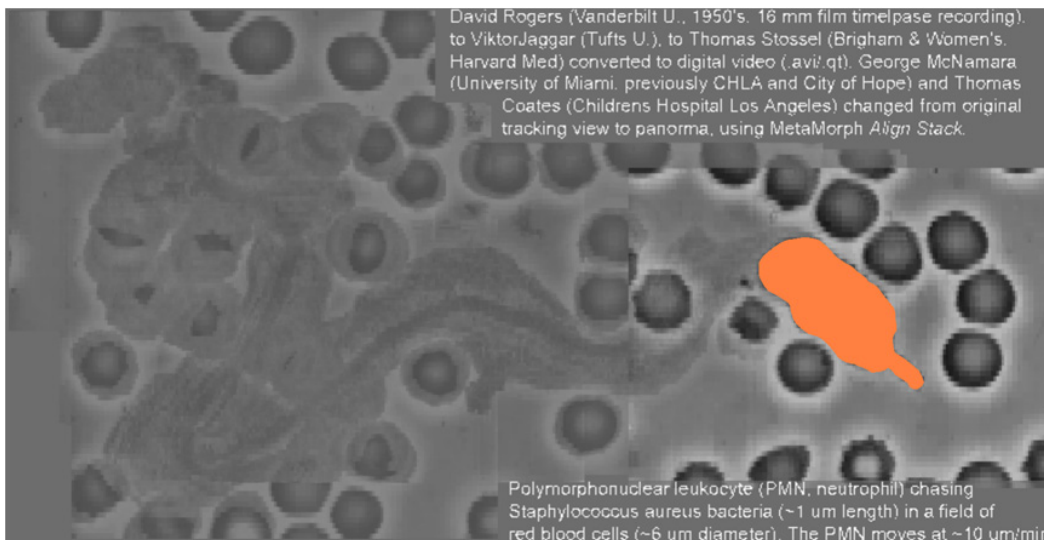

Figure 1. First plane of panoramic movie with cell thresholded orange.
In part one, I described making a panoramic movie of the classic timelapse film by David Rogers of a neutrophil chasing bacteria. In part two, I described the three tracking options, Track Points (manual), Track Objects (using threshold), Multi-Dimensional Motion Analysis (using threshold). In part three I discussed Measure – Integrated Morphometry Analysis (IMA) / Morphometry - Measure Objects (MO). Figure 1 shows the first plane of the panorama, with the cell thresholded (orange overlay) after I had subtracted 10 intensity levels, then painted the cell intensity level 255.